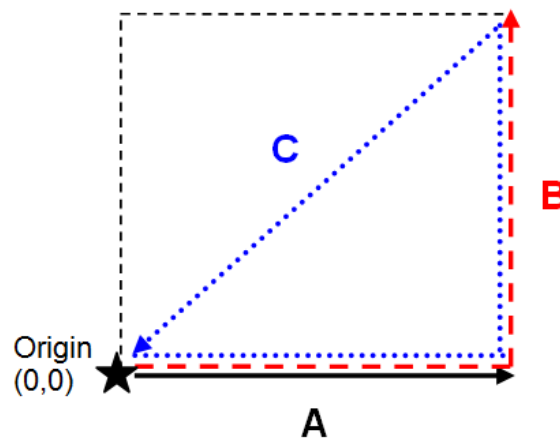

Figure 7-4: Forming a right-angle triangle
Step 2 – Layout the Grid – for maximum accuracy, it's very important to establish a right-angle triangle (Figure 7-4). The easiest way is to use a single tape measure and refer to the diagram below. Start at the origin, walk out the desired distance for X-axis (A) and mark that point. Then turn 90 degrees and walk out the desired distance for the Y-axis (B) and mark that point. Determine the hypotenuse side (C) from the screen (Figure 7-4), then close in the triangle (C - hypotenuse side) back to the origin, making sure you meet the origin at the distance for C. If not, move that last point in tandem with the origin, such that both sides of the tape measure are taut.